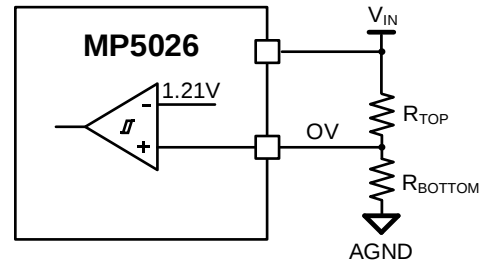

Figure 9: OV Connection
The MP5026 provides internal voltage sensing to monitor V_{IN} . Connect a resistor divider between the V_{IN} and AGND pins to set the input over-voltage (OV) threshold (V_{OV}) (see Figure 9).